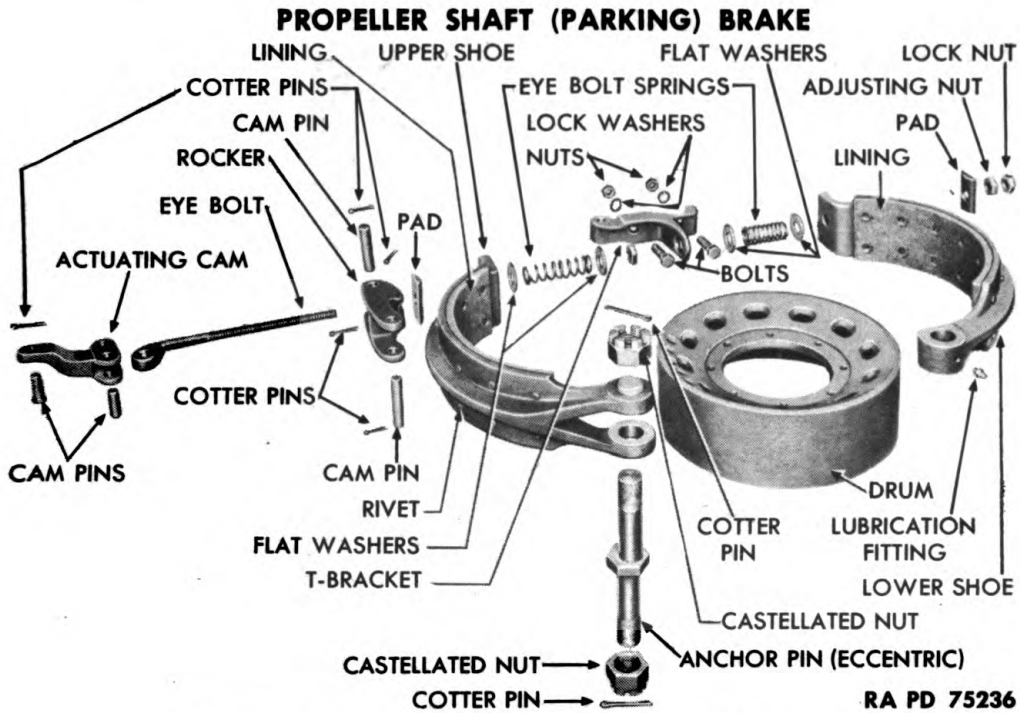

Figure 20 — Propeller Shaft Brake — Disassembled
37. DESCRIPTION AND OPERATION (fig. 20).
a. **Disassembly** (fig. 20). Remove propeller shaft brake shoes (TM 9-767). Remove pad from eye bolt, then remove two cotter pins and cam pin which hold cam in rocker. Remove cam and eye bolt from the rocker, and remove remaining cam pin which holds eye bolt to cam.
d. **Assembly (fig. 20).** Install eye bolt in cam securing it with one cam pin (without cotter pin holes), then install eye bolt and actuating cam in rocker with a second cam pin, locking both ends of cam pin with cotter pins. Install pad on one end of eye bolt. Adjust parking brake (TM-9-767).